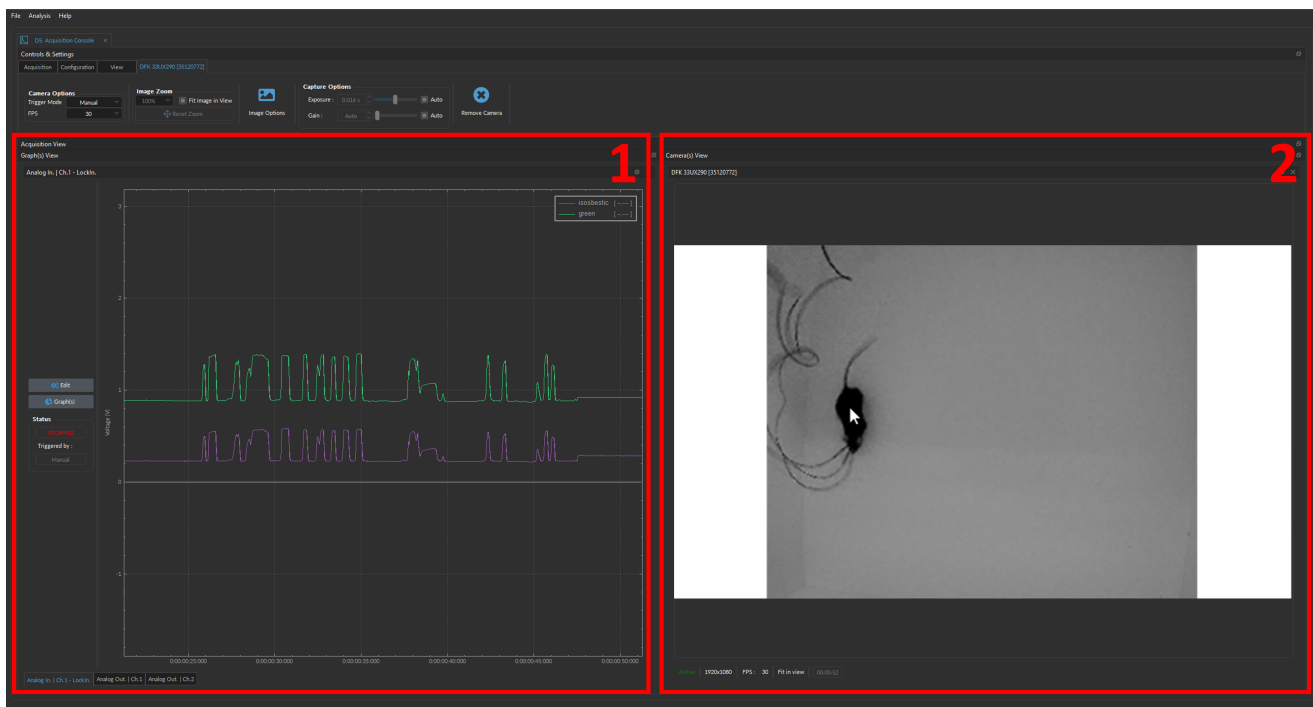

Figure 6.15: Integrating Camera into Acquisition Console module
1. **Simultaneous view** of photometry signal and the video feed (Fig. 6.15, 1 & 2 respectively). Note that while this module can support multiple camera integration, it can only view one video feed at a time.